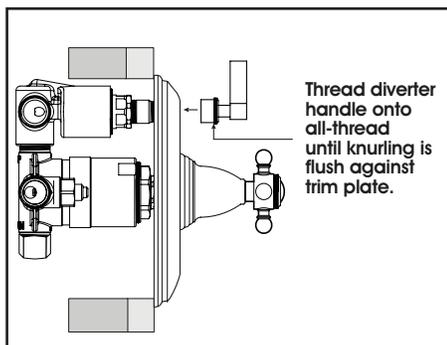

FIG. 4e
5. Reinstall (diverter) Stem, All-thread and locking nut making sure the locking nut is tightly securing all-thread. Fully thread the diverter handle onto the all-thread while clocking handle in upright position. FIG 4e.